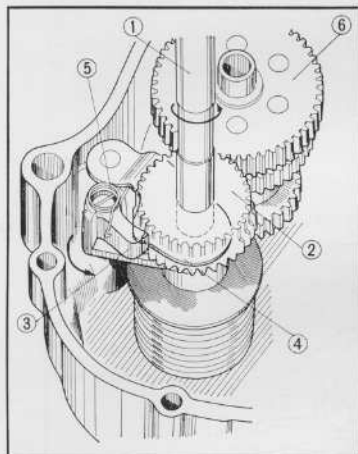

Fig. 3.108 Kick starter mechanism
As shown in Fig. 3.108, when the kick starter spindle (1) is rotated by a kick, the kick starter ratchet flange (3), is rotated simultaneously.